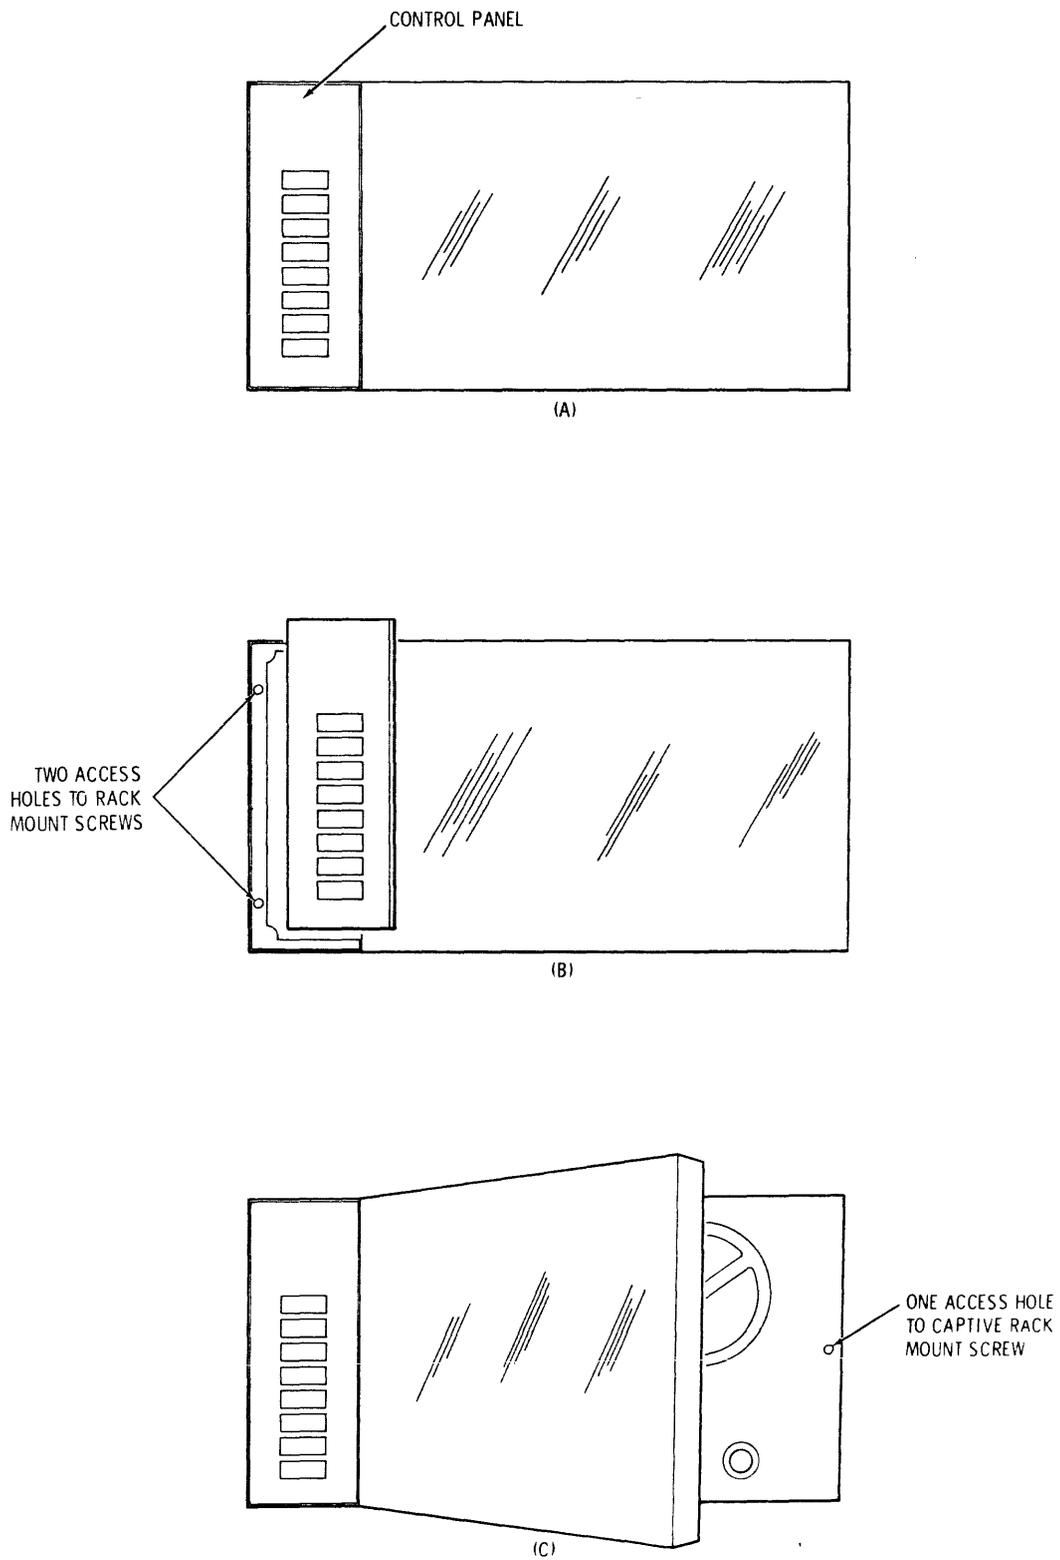
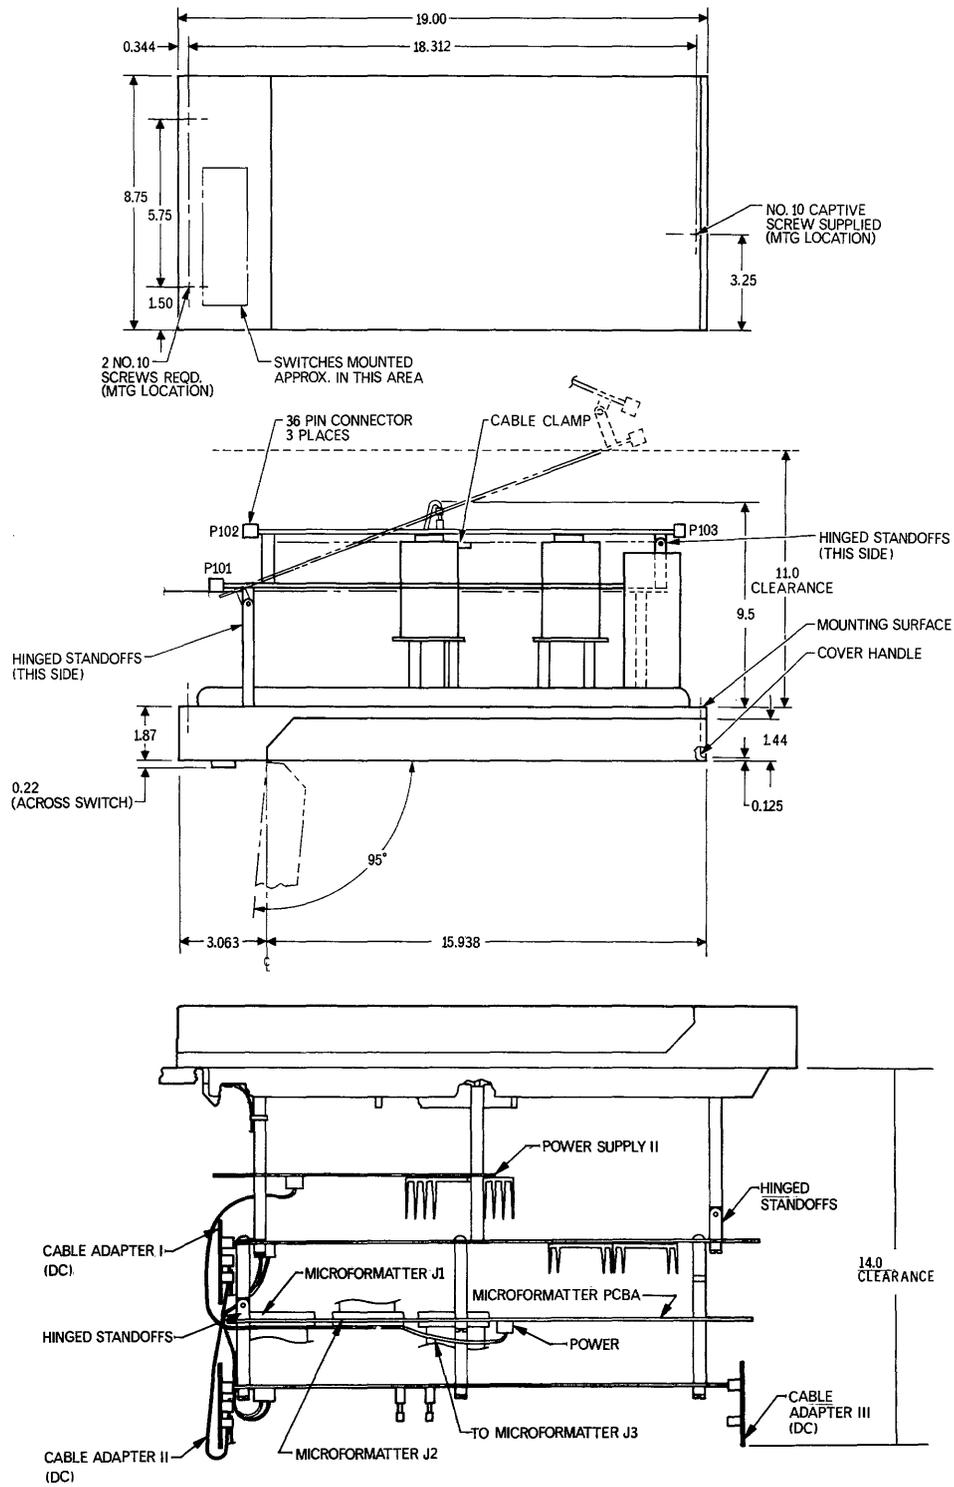

Figure 2-2. Rack Mounting the Transport
Figure 2-3. Installation Diagram
The transport's mounting holes are for a standard EIA rack. Figure 2-2 illustrates the procedure for mounting and Figure 2-3 is an installation
- (1) Place the transport on a flat surface with the reels facing the operator. Locate the socket wrench and the mounting screws supplied with the transport.
- (2) Remove the control panel located on the left front of the transport (Figure 2-2(A)). Removal is most easily accomplished by tapping the control panel corners (from the rear) with a screwdriver handle or similar object.
- (3) Remove the three No. 8 one-inch screws holding the transport to the shipping frame (Figure 2-2(B) and (C)).
- (4) Locate the transport in the rack and insert the two socket head screws in the access holes on the left front of the transport. Do not tighten at this point.
- (5) Open the dust cover and locate the single captive screw on the right over the hole in the rack (using the socket wrench) and tighten the screw.
- (6) Tighten the two screws on the left and snap the control panel into position.